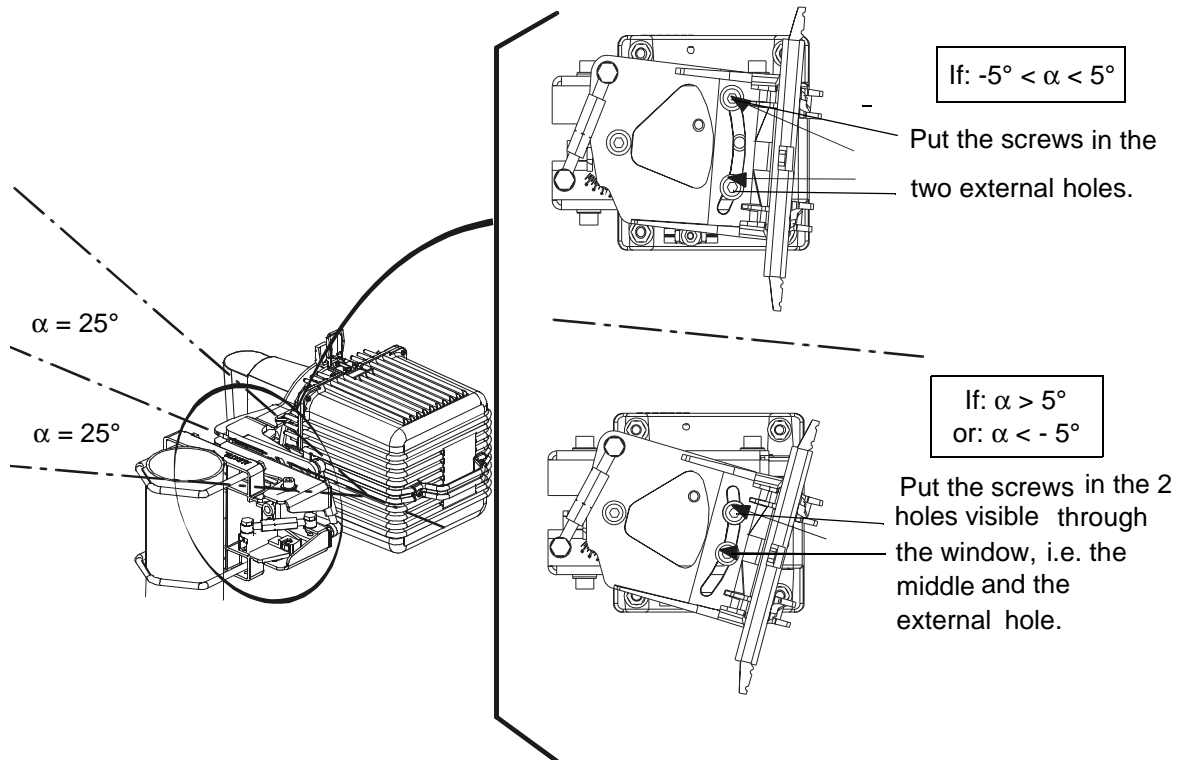

Figure 31 – Elevation coarse alignment of antenna
- insert it in the third hole accessible as shown in the *Figure 31 – Elevation coarse alignment of antenna*.